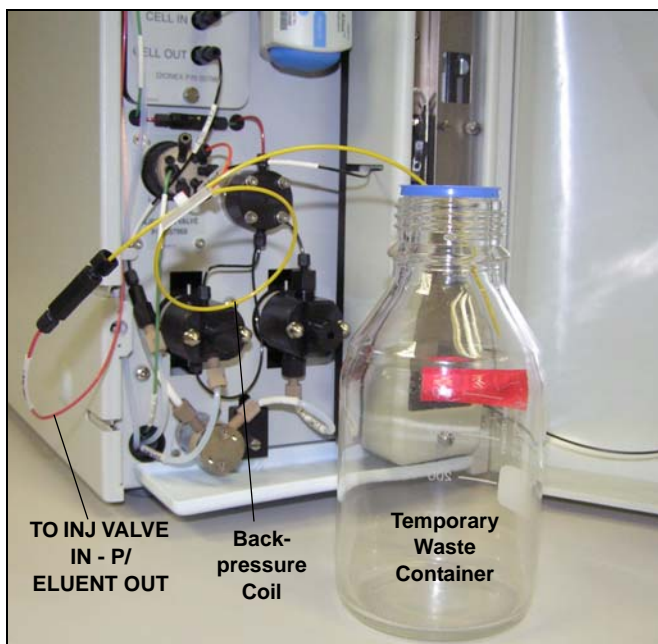

Figure 5-51. Plumbing Connections for Conditioning the EluGen Cartridge with Carbonate Eluent
3. Use the coupler to connect the **TO INJ VALVE IN - P/ELUENT OUT** line to one end of the backpressure coil (see Figure 5-51).